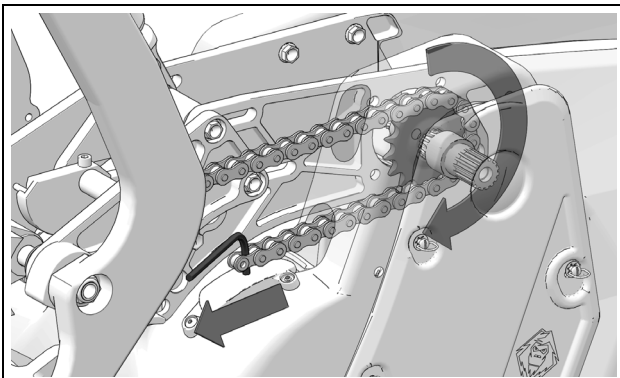

Figure 34
- Slowly rotate the YETI's track to advance chain links on the sprocket. Use a hook or magnet to extract the chain out of the chassis through the lower opening at the front. See Figure 34.